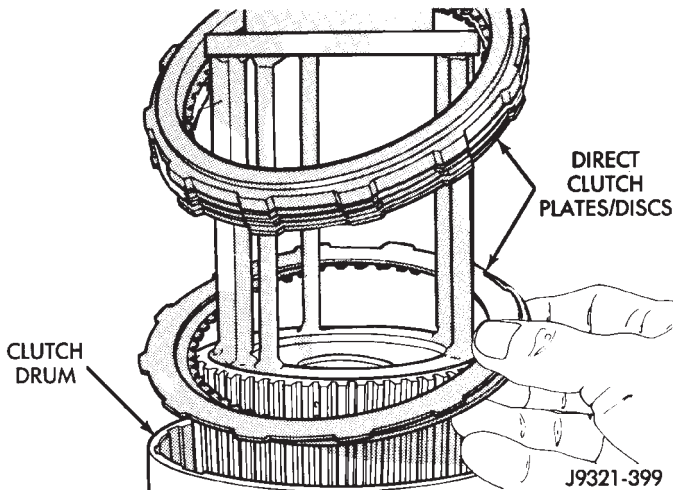

Fig. 53 Seating Clutch Pack In Drum
(21) Carefully **remove** Alignment Tool 6227-2 from clutch and hub splines. Withdraw tool slowly to avoid spline misalignment. Tool must be removed at this point to provide room for compressor tool movement.
(22) Position Compressor Tool 6227-1 on clutch hub (Fig. 53).
(24) Compress clutch hub and spring just enough to place tension on hub and hold it in place.
(25) Slide direct clutch pack upwards on hub (Fig. 53). Then set clutch pack on edge of clutch hub and compressor tool as shown.
(26) Slowly compress clutch hub and spring (Fig. 53). Compress spring and hub only enough to expose ring grooves for clutch pack snap ring and clutch hub retaining ring.
(27) Realign clutch pack on hub and seat clutch discs and plates in clutch drum (Fig. 53).